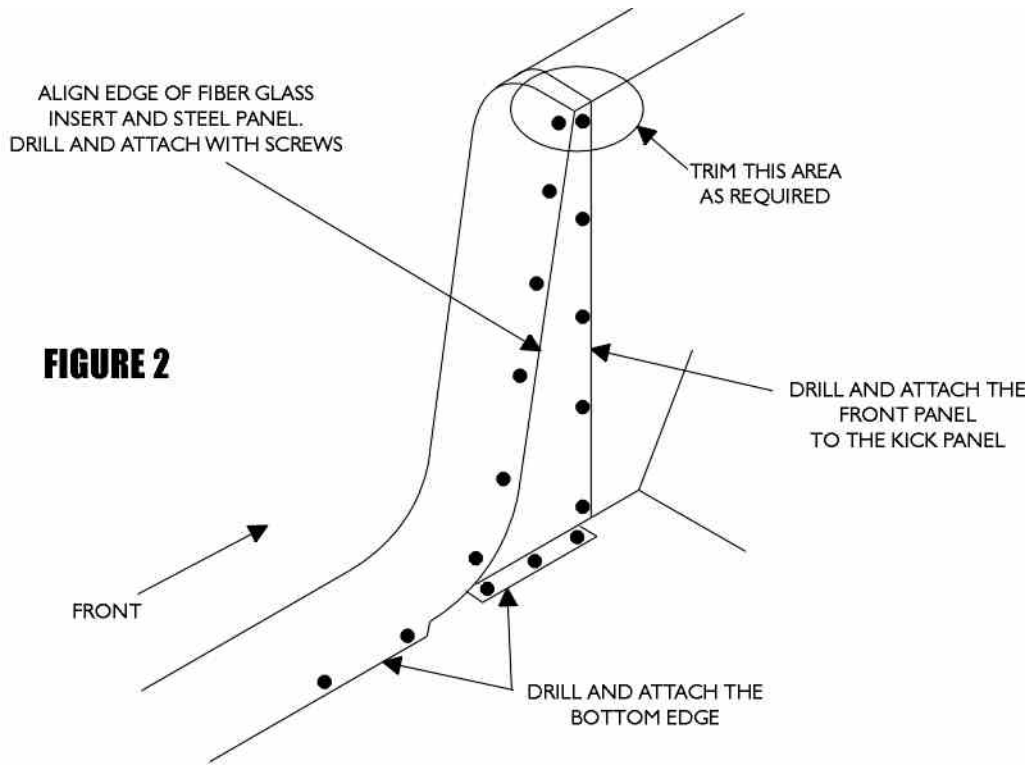

FIGURE 2
12. Position the front backing plates and mark the location. Trimming the backing plate may be necessary for proper fit. See Figure 2.
13. Secure the front backing plate using #8 x 1/2" sheet metal screws evenly spaced. See Figure 2.